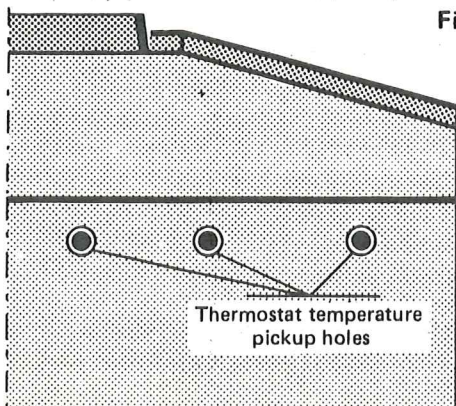

Fig.5
The boiler control thermostat must be placed in the holes (as shown in fig. 5.). Remove the front cover, to obtain access to these holes.
N.B. When burning wood, check that the logs are gradually falling into the fire, from the top of the hearth. If the logs do not fall freely, riddle with the poker. (fig. 5).